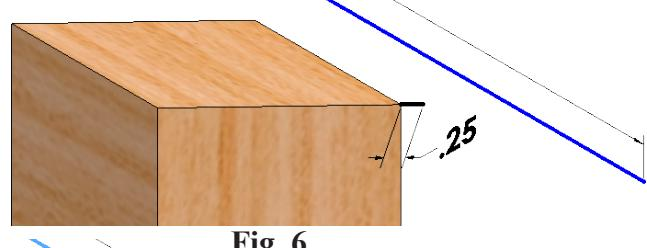

Fig. 6
Step 15. Click Smart Dimension  (S) on the Sketch toolbar.
Step 16. Dimension line 23.25, Fig. 6.